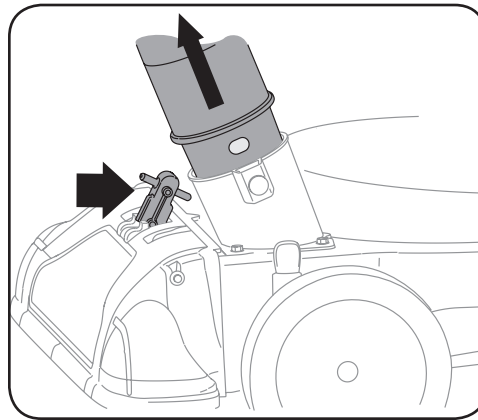

Figure 4-4
1. Place nozzle/hose vac lever in the top position on the nozzle to vacuum through nozzle. See Figure 4-4.
2. The spring loaded pin must be in the first hole (closest to the end of the tube) of the hose adapter to operate the nozzle vac. See Figure 4-4.